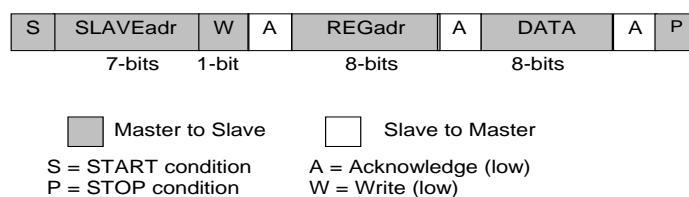

Figure 10: I²C Byte Write (SDA Line)
The I²C bus is monitored for a valid slave address whenever the interface is enabled. It responds immediately when it receives its own slave address. The acknowledge is done by pulling the SDA line low during the following clock cycle (white blocks marked with A in Figure 10 and Figure 11).
The protocol for a register write from master to slave consists of a START condition, a slave address with read/write bit, and the eight-bit register address followed by eight bits of data, terminated by a STOP condition. DA9142 responds to all bytes with acknowledge (A), see Figure 10.